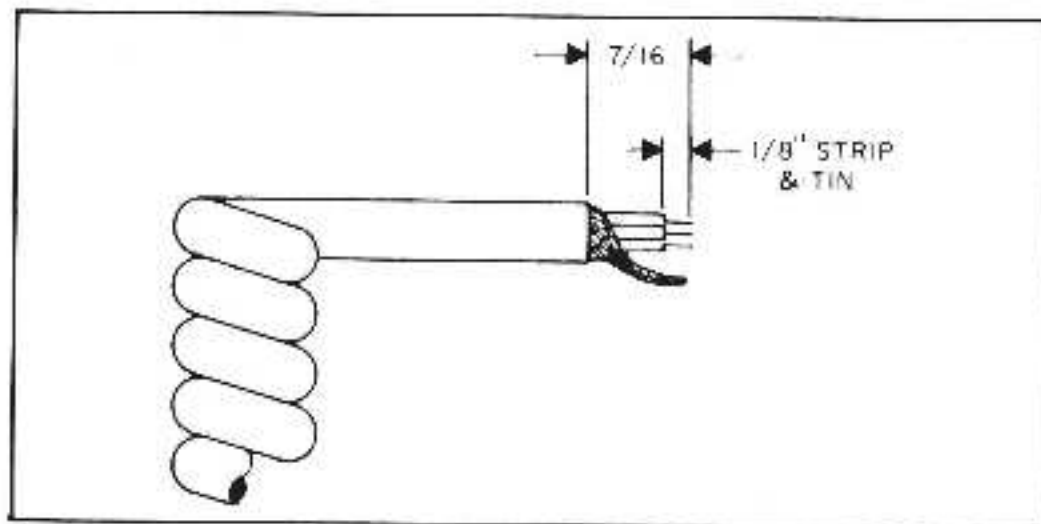

Fig. 1. Microphone cable preparation.
1. Cut leads so that they extend 7/16" beyond the plastic insulating jacket of the microphone cable. (See Fig. 1.)